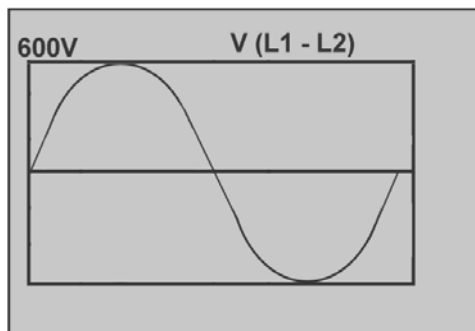

Figure 8.8. Time domain waveform of line voltage displayed by the PQF-Manager
- The network voltage waveforms for all phases (Figure 8.8.)
- The line current waveforms for all phases. The graph layout is similar to the one of the voltages (Figure 8.8.) All waveforms are synchronized with the rising edge zero crossing of the voltage V (L1-L2).
- The filter current waveforms for all phases. The graph layout is similar to the one of the voltages (Figure 8.8.) All waveforms are synchronized with the rising edge zero crossing of the voltage V (L1-L2).